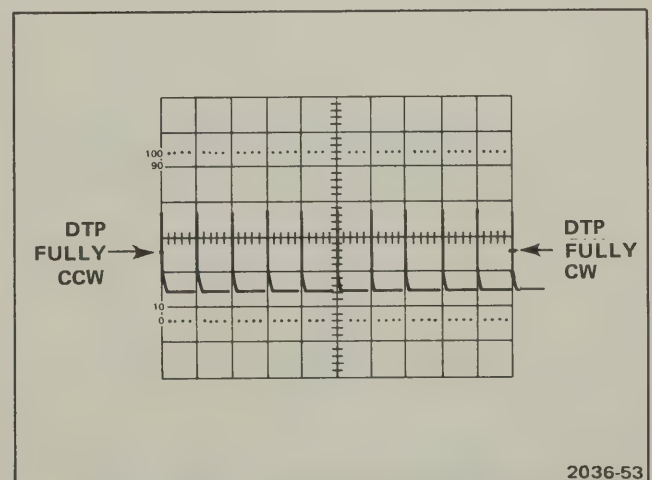

Fig. 6-8. Sweep start and stop adjustment (475 and 475A).
- g. **ADJUST**—Sweep stop (R936) to position the intensified zone to the vertical center of the trailing edge of the eleventh time marker (see Figure 6-8).